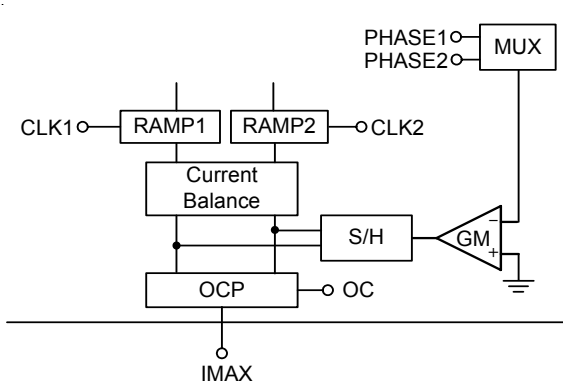

Figure 3. Current Sensing Loop
RT8805 senses the current of low side MOSFET in each synchronous rectifier when it is conducting for channel current balance and OCP detecting. The multiplexer and sensing GM amplifier converts the voltage on the sense component (can be a sense resistor or the RDS(ON) of the low side MOSFET) to current signal into internal circuit (see Figure 3).